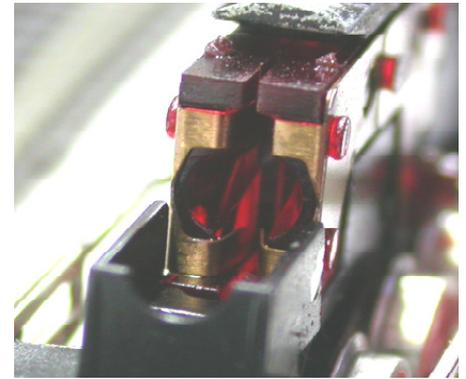
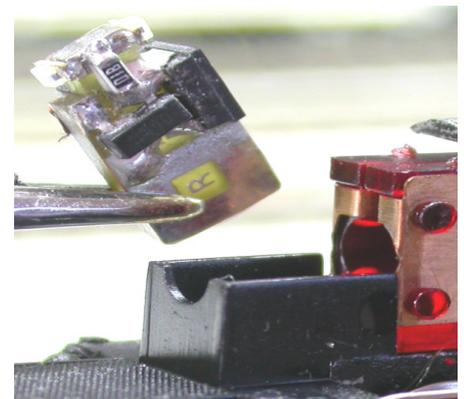
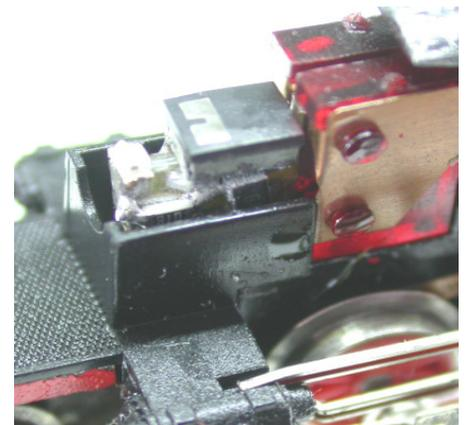

figure 2: Correct position of the contact sheets
figure 3: Correct installation of the component
figure 4: The component in its correct position after being pushed in completely
8. Now take the electronic component out of its package. The black condenser is pointing upwards, the LEDs are pointing into running direction. Now insert the component into the socket where the bulb has been before, figure 2. Hold the component a little aslope and as well move it downwards aslope until it touches the bottom of the socket, figure 3. Now push it backwards as far as possible. The front part will lower down as far as the locomotive chassis is permitting. In case the last bit you have any difficulties moving it in completely, sway it smoothly until the whole component slips into the socket. Do not try to force it into the socket. The component then should be completely horizontal, check again if you have moved it completely to the back, figure 4.
10. If the component does not stay inside firmly or even falls out, the contact sheets of the socket have to be bent very carefully with the help of some tweezers. The current-carrying sheets should not be bent sideways. There always has to be a small distance between the contact sheets (figure 2), in no case the contacts should touch each other.